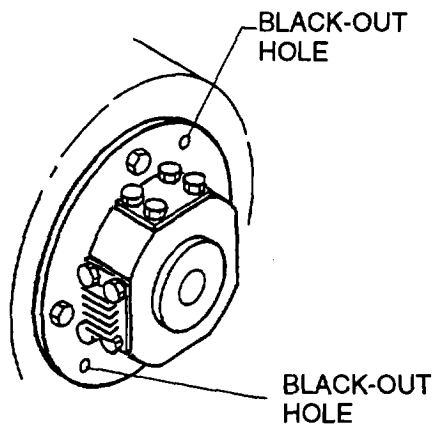

FIGURE 4-14. End Bell Removal (MEP-814A)
- e. Remove bolts (6) and lockwashers (7) from end bell (5).
- f. Install two bolts (6) in "back-out" holes in end bell flange, refer to FIGURE 4-14.